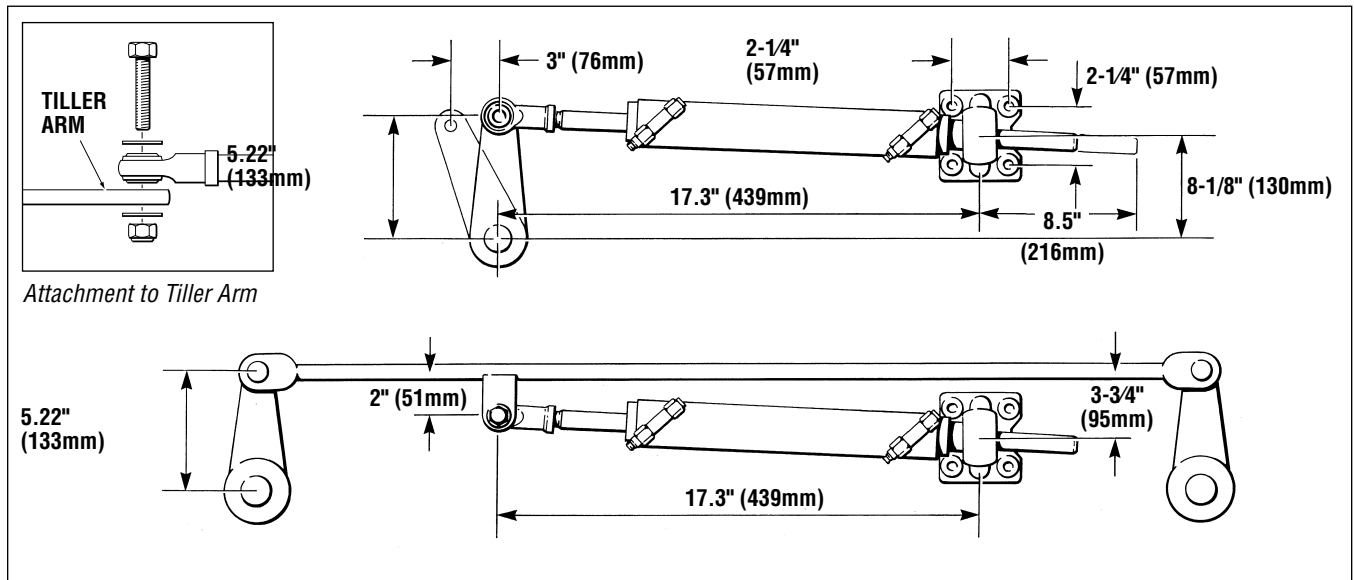

Figure 5
4. Extend cylinder rod to arrive at 17.3" (439 mm) from center of rod end ball joint hole to the center of the mounting foot (as shown in figure 5 below).